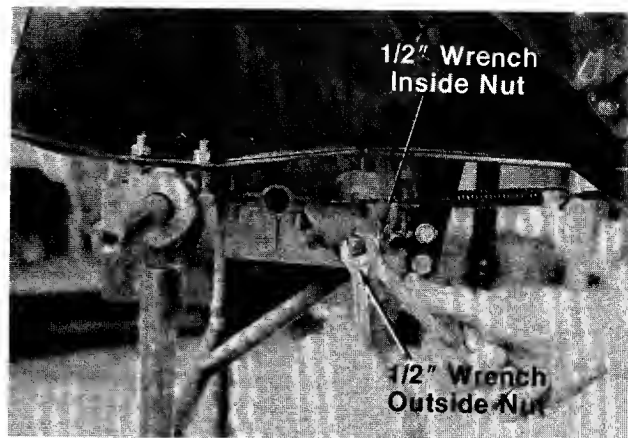

FIGURE 24.
3. Tighten the outside nut against the inside nut, using two 1/2" wrenches. See figure 24.